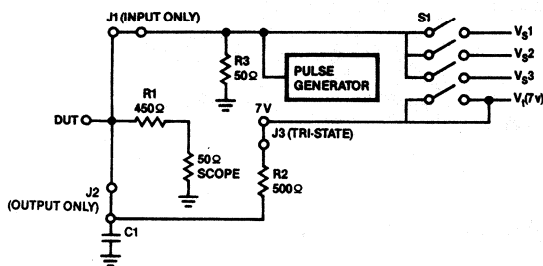

Figure 5. Signetics PCB Fixture Schematic
There are two types of signal lines on this fixture: input and output; both of which are 50Ω transmission lines. The input line is on the top side of the board and is always terminated in 50Ω . It is connected to the DUT via a .3" jumper, Jumper #1 for input. When this jumper is installed, the DUT pin is available only as an input. To allow this line to be used as an output, a .1" jumper, Jumper #1 for output, is used instead of the .3" jumper. This connects the DUT pin to the AC load when the DUT pin is an output. See Figure 5.
As illustrated in Figure 5, the load is shared with the 50Ω input of the measurement system; a 50Ω sampling oscilloscope. The 450Ω resistor: R1, is soldered to the socket pin of the device and is in series with the 50Ω input of the scope. Figure 6 illustrates this on the board layout of one input/output pin. This allows virtually a probe tip on the device pin. The load capacitor: C1, is a 33pF ceramic chip capacitor. This is added to the measured value of 17pF of board capacitance, achieving the 50pF value specified for the load. The distance from the pin to the capacitor is .5 inches and is adequate for the testing of these product families.
For testing 3-State parameters, the 500Ω resistor: R2, is connected to its pull-up supply. V_t via a .3" jumper: Jumper #2. The V_t supply is bussed to each pin and may or may not be connected with that jumper. See Figures 5 and 6.
hard to detect errors into the waveform. The second reason being that most suppliers of these technologies provide data based upon the Low-impedance approach and most large users of these products do so as well. This also allows the fixture to be used for ECL testing since that product uses a totally 50Ω environment. Figure 5 illustrates how this test fixture implements the 50pF/500Ω load schematically.
When the input is not used for a signal input, the line may be switched to one of three voltage sources: $V_S 1$ through $V_S 3$, by the use of a DIP switch on each pin. It may also be left open and then the 50Ω pull-down resistor: R1, pulls the line to ground and can be used as a hard low level. See Figure 5. These voltage levels are brought in from external supplies through banana connectors like V_{CC} . This scheme eliminates excessive cabling to each input to provide the static input levels and thereby reduces parasitic inductances and cross-talk. Each of the 3 busses and the V_I bus all have places for by-pass capacitors in the event of noise on the static levels. Figure 8 illustrates the DIP switch and SMB connectors and how they control the input stimulus and output measurement.
dedicated fixture. However, on a dedicated fixture, the pins are individually constructed to be either an input or an output, and in so doing, the fixture is usable for 1-to-4 devices. The Signetics fixture, once dedicated to a particular V_{CC} and GND configuration, is built up to have both input and output components on all signal pins. The selection of which pin is an output or an input is made by inserting the appropriate jumper, See Figures 5 and 6. The same applies in doing tri-state testing. The tradeoff here is that it would probably take less time to setup the dedicated fixture than the Signetics fixture. To help compensate for that tradeoff, we have the three V_S supplies that may be switched into any pin to provide input static levels and eliminate the need to bus input High or Low levels by external cabling. For the user that means the only connections being made to the fixture are:
- the V_I supply (banana jack): this is the tri-state pull-up voltage and is permanently connected to the bus to each pin. It is selectable by Jumper #2, see Figures 5 and 6. For FAST and ALS products this is 7V. For ACL products this is $V_{CC} \times 2$ and it is not used for ECL applications.